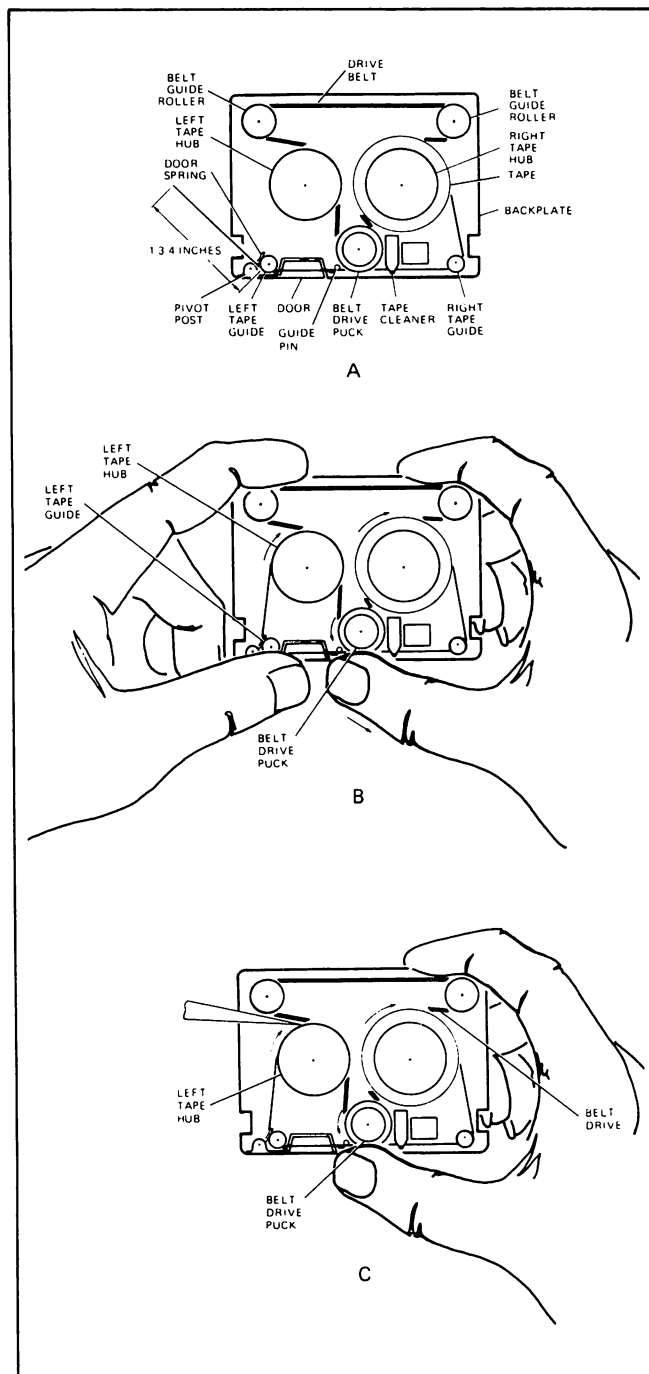

Figure D-1. Tape Cartridge Rethreading
- b. As shown in figure D-1, view A, rethread loose end of tape around right tape guide, through tape cleaner (use tweezers, if necessary), past belt drive puck, outside guide pin, and around left tape guide so that approximately 1-3/4 inches of tape is clear of guide.
- c. Hold tape cartridge as shown in figure D-1, view B, so that right hand can be used to rotate belt drive puck and left hand can be used to maintain tape tension at left tape guide.
- e. While maintaining tape tension, use any small round-tipped tool to trap free end of tape between drive belt and left tape hub as shown in figure D-1, view C.